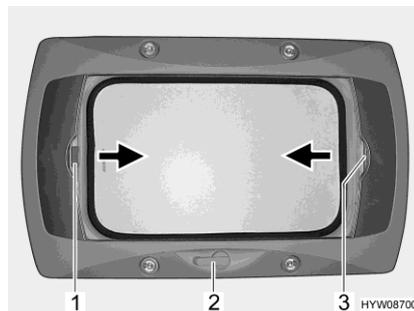

Fig. 72 Wind-up skylight
Opening: ■ Rotate the hand crank (Fig. 72,2) until a resistance can be felt.
- Closing:* ■ Pull the handle of the Roman shade (Fig. 72,3) in the direction of the arrow and release it in the desired position. The Roman shade will stay in that position.
- Closing:* ■ Use the handle to pull the insect screen (Fig. 72,1) in the direction of the arrow to the opposite handle of the Roman shade (Fig. 72,3) and allow it to engage.
- Opening:* ■ Press the handle of the insect screen (Fig. 72,1) at the back upwards and detach the insect screen from the Roman shade (Fig. 72,3).